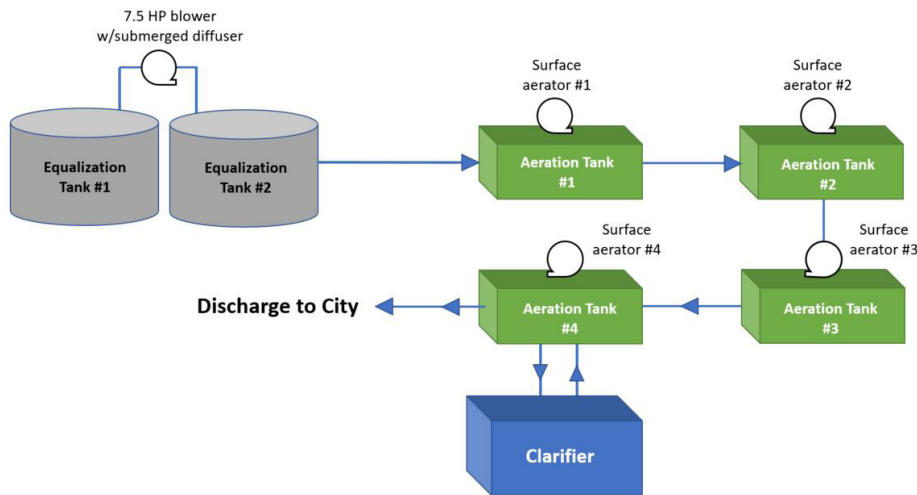

Figure 1: Waste process system diagram before Moleaer XTB installation
A privately-held slaughter house and beef processor in the state of Idaho has historically treated its wastewater through a simple activated sludge treatment process. Two large above-ground rectangular tanks have been divided into four cells - each one aerated with either a 5 HP (2) or 10 HP (2) surface aspirator and supplemented with bacteria to help break down the waste elements. After passing through the activated sludge zone, the wastewater was then sent over to a decommissioned dissolved air flotation (DAF) system that had been converted into a clarifier. (See process diagram Figure 1 below).